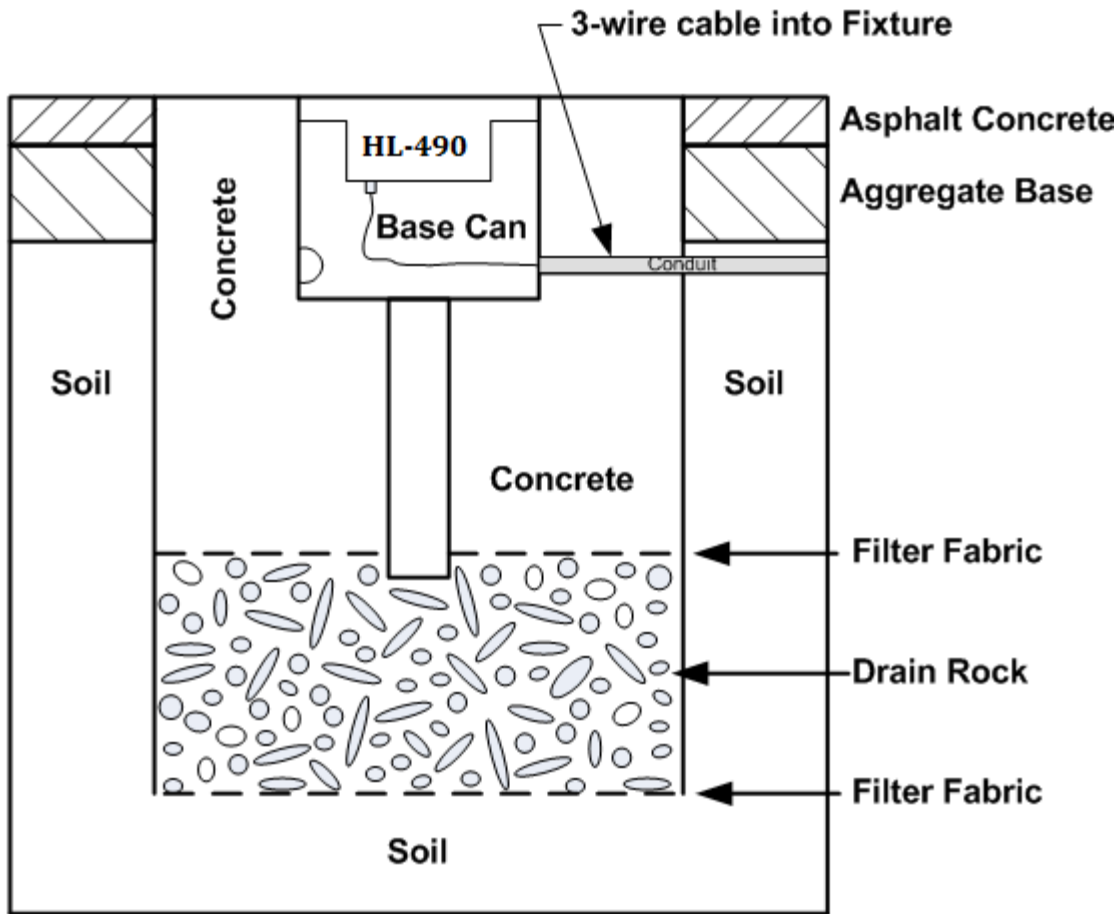

Figure 1
2. Proper drainage is critical for longevity of the fixture since water intrusion can destroy the electronics inside the fixture. The fixture is weatherproof, and some water is expected to enter the base can, but provisions must be made to drain the water. Figure 1 outlines the suggested installation for proper drainage: